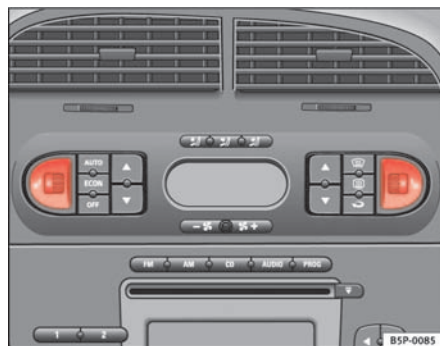

Fig. 94 Thumb wheel for the front seat heating
- Turn the appropriate thumb wheel $\Rightarrow$ fig. 94 to switch on the seat heating. The seat heating is switched off in the 0 position.